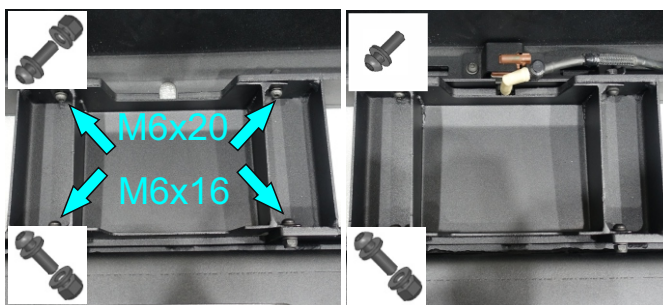
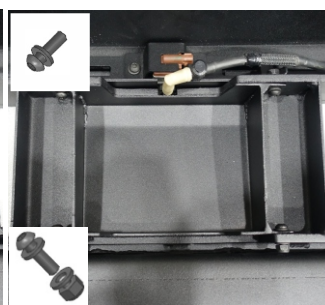

Fig.60
Fig.61
58. Secure radar cap (item 43) (fig.60) or radar cap and camera (fig.61) using screws M6x16, screws M6x20, washers M6, nuts M6 and camera bracket (items 29, A1, A2, H1, E2). Center camera and slide to bumper as far as possible.